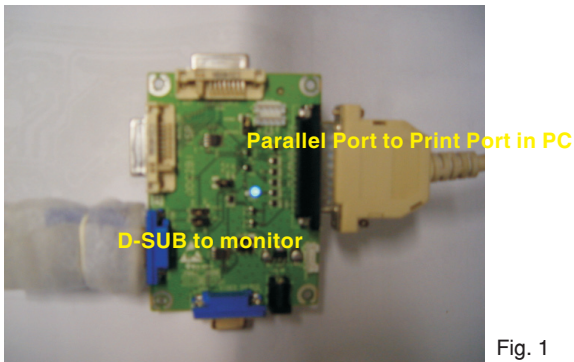

Fig. 1
4. **DDC2BI_ISP TOOL (3138 149 53161)** as shown in Fig. 1